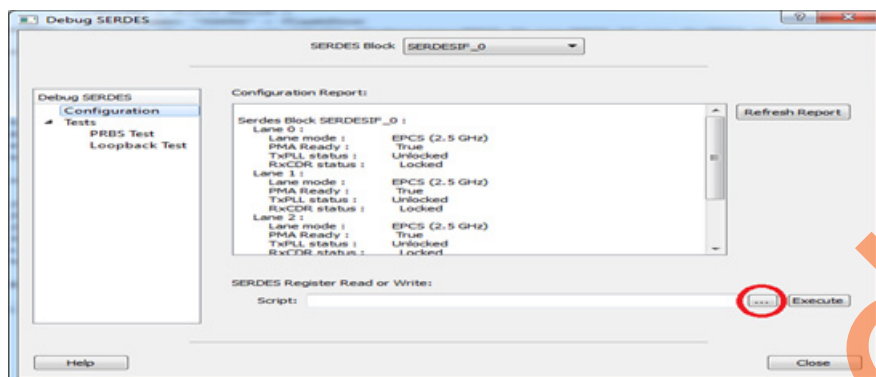

Figure 11 • SmartDebug Window - Debug SERDES
The **Debug SERDES** window is displayed, as shown in Figure 11.
4. Click **Browse** (highlighted in Figure 11) and load the TCL script provided along with the project under *TCLScript* folder.